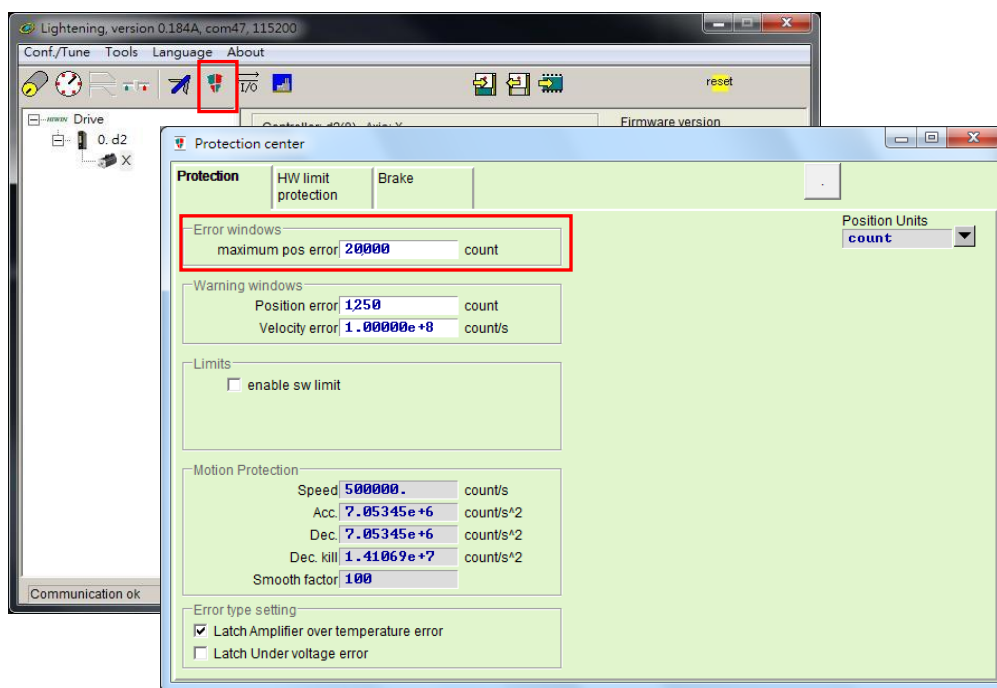

Fig. 9-9
- (1) Modify the maximum position error by steps described in Fig. 9-9.
- (2) It is not recommended to set the position error higher than the default value. If “E03 PEBIG” or “ERR E03” appears at the default value, adjust the servo rigidity.